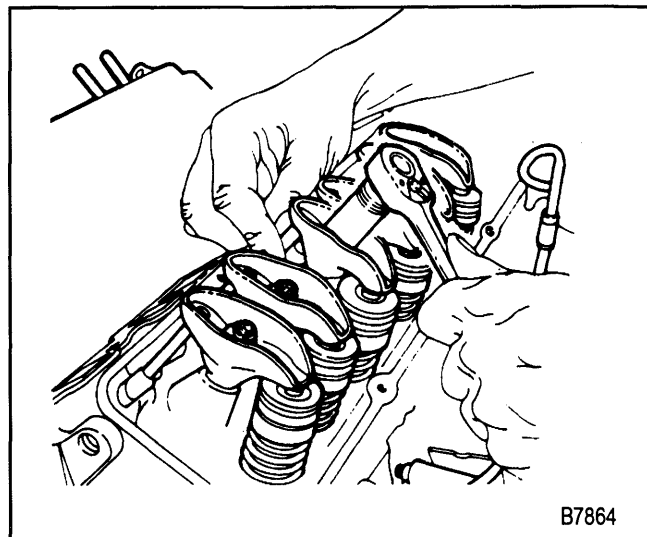

Figure 8—Adjusting the Valves
4. Back out the adjusting nut until lash is felt at the pushrod then turn in the adjusting nut until all lash is removed. This can be determined by rotating the pushrod while turning the adjusting nut (figure 8). When the play has been removed, turn the adjusting nut in one full additional turn (to center the lifter plunger).